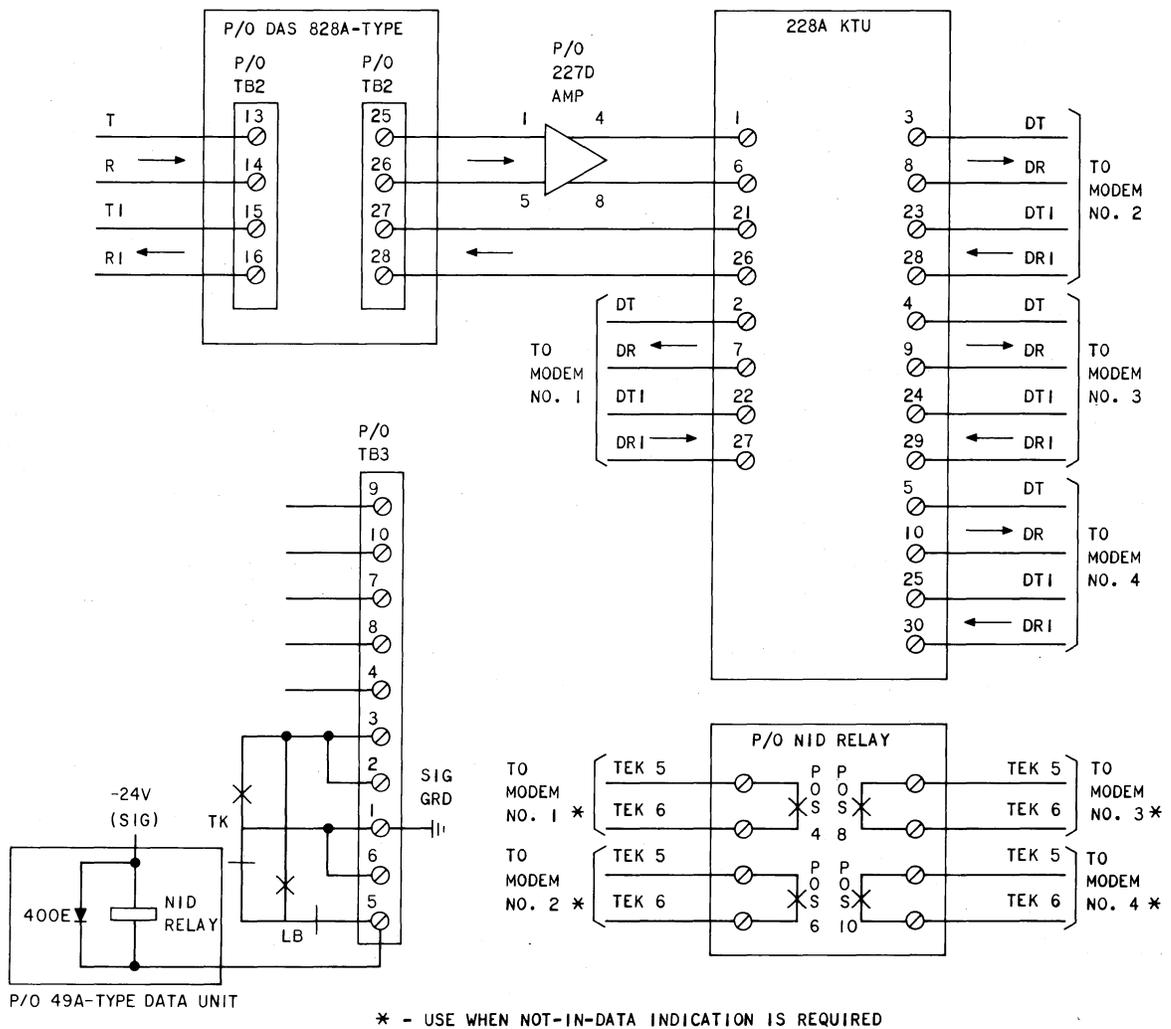

Fig. 11—Functional Arrangement of Data Circuit for DAS 828A-L1 Modified for Station Bridging
operated or whenever the DAS loses power. The circuit, shown in Fig. 11, provides the not-in-data indication through TEK5 and TEK6 leads. All Bell System modems except data set 103F-type can use the not-in-data indication. This indication can be made available to CP modems, if required. ♣
3.39 The 4W private line is connected to terminals shown on TB2 (Fig. 11). The signals received on the T and R leads pass through the DAS 828A-L1 as described in 3.04 through 3.06 until they reach TB2-25 and 26, respectively. From there they go through another 227D amplifier whose output is connected directly to the input of a resistive 5-way split bridge.